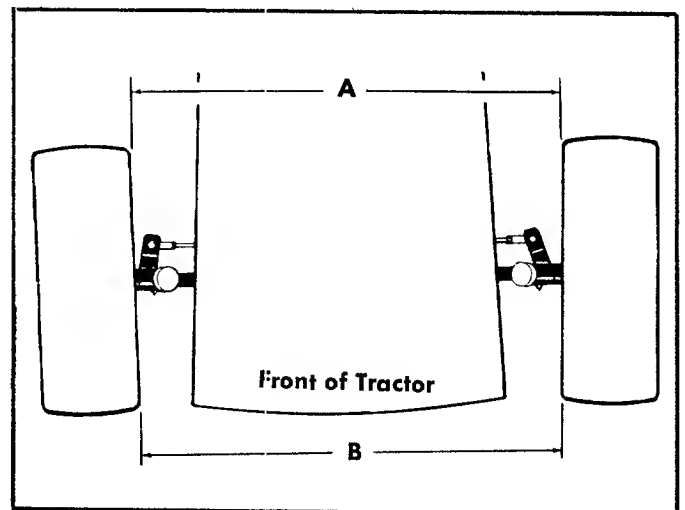

FIGURE 23. TOE-IN DIAGRAM
Step 3. Adjust the tie rod end in or out to obtain the proper toe-in adjustment as shown in figure 23.